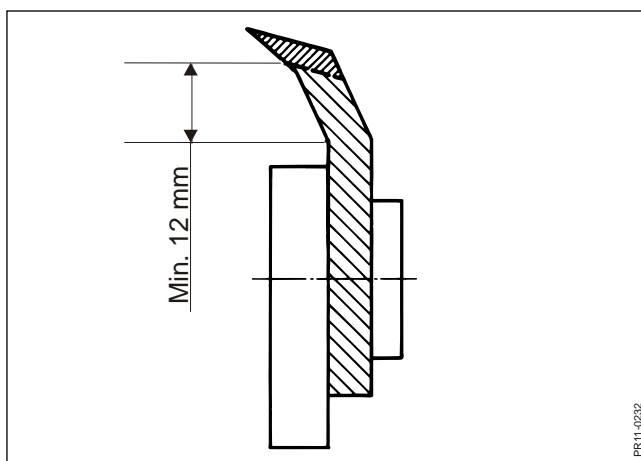

Fig. 4-26
**Fig. 4-26** When the blades have been worn by a maximum of 8 mm or to the first bend, i.e. approx. 12 mm above the straight piece of the blade, they must be replaced.